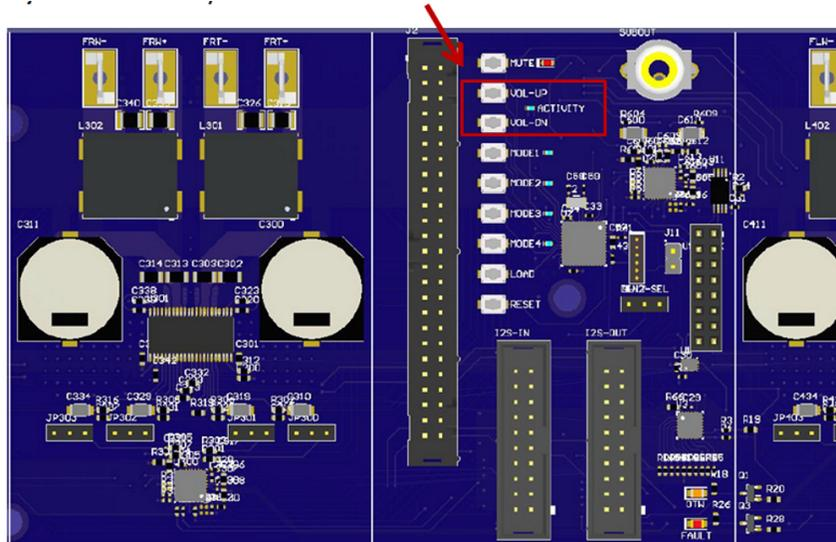

Figure 13. Volume Button Location
- a. Adjust the volume on the amplifier PCB by pressing VOL-UP and VOL-DN (see Figure 13).